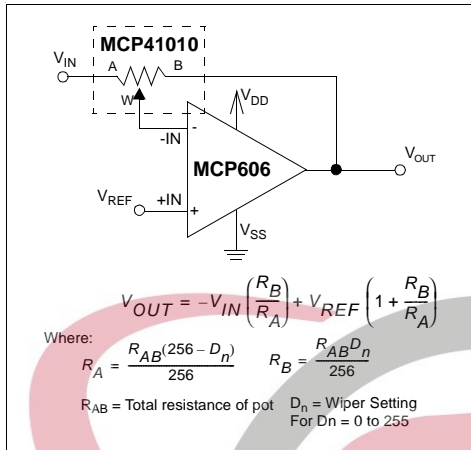
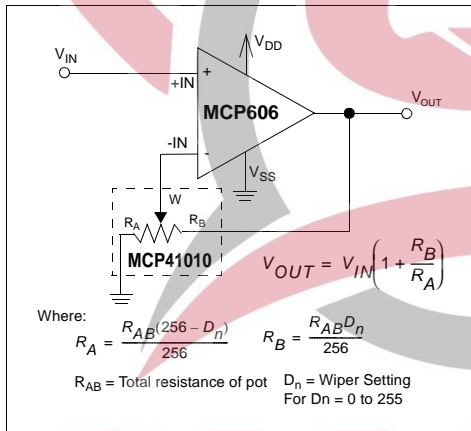
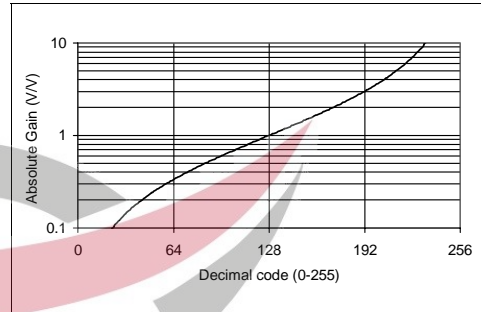
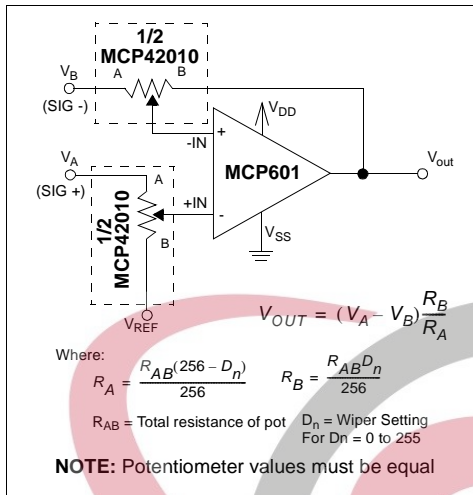

Figure 4-4: Single supply programmable inverting gain amplifier using a digital potentiometer.
Figure 4-5: Single Supply Programmable Non-inverting gain amplifier
Figure 4-6: Gain vs. Code for inverting and differential amplifier circuits.
Figure 4-7: Single Supply programmable differential amplifier using digital potentiometers.
Potentiometers are often used to adjust system reference levels or gain. Programmable gain circuits using digital potentiometers can be realized in a number of different ways. An example of a single supply inverting gain amplifier is shown in Figure 4-4. Due to the high input impedance of the amplifier, the wiper resistance is not included in the transfer function. For a single supply non-inverting gain configuration, the circuit in Figure 4-5 can be used.
In order for these circuits to work properly, care must be taken in a few areas. For linear operation, the analog input and output signals must be in the range of V_{SS} to V_{DD} for the potentiometer and input and output rails of the op-amp. The circuit in Figure 4-4 requires a virtual ground or reference input to the non-inverting input of the amplifier. Refer to Application Note AN-682, "Using Single Supply Operational Amplifiers in Embedded Systems" for more detail. At power up or reset (RS), the resistance is set to mid-scale and R_A and R_B match. Based on the transfer function for the circuit, the gain is -1 V/V. As the code is increased and the wiper moves towards the A terminal and the gain increases. Conversely, when the wiper is moved towards the B terminal, the gain decreases. Figure 4-6 shows this relationship. Notice the pseudo-logarithmic gain around decimal code 128. As the wiper
An example of a differential input amplifier using digital potentiometers is shown in Figure 4-7. For the transfer function to hold, both pots must be programmed to the same code. The resistor matching from channel-to-channel within a dual device can be used as an advantage in this circuit. This circuit will also show stable operation over temperature due to the low potentiometer temperature coefficient. Figure 4-6 also shows the relationship between gain and code for this circuit. As the wiper approaches either terminal, the step size in the gain calculation increases dramatically. This circuit is recommended for gains between 0.1 and 10 V/V.
Figure 4-9: Potentiometer resistances are a function of code. It should be noted that when using these equations for most feedback amplifier circuits (see Figure 4-4 and Figure 4-5), the wiper resistance can be omitted due to the high impedance input of the amplifier.